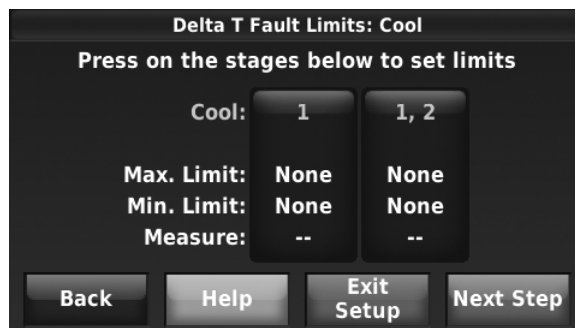

Fig. 63.
- Press Stage 1 to set the limits and run time (see Fig. 63). Use the saved test data located in the upper right corner of the screen to set the Delta T Minimum and Maximum Limits and the Run Time (see Fig. 64).